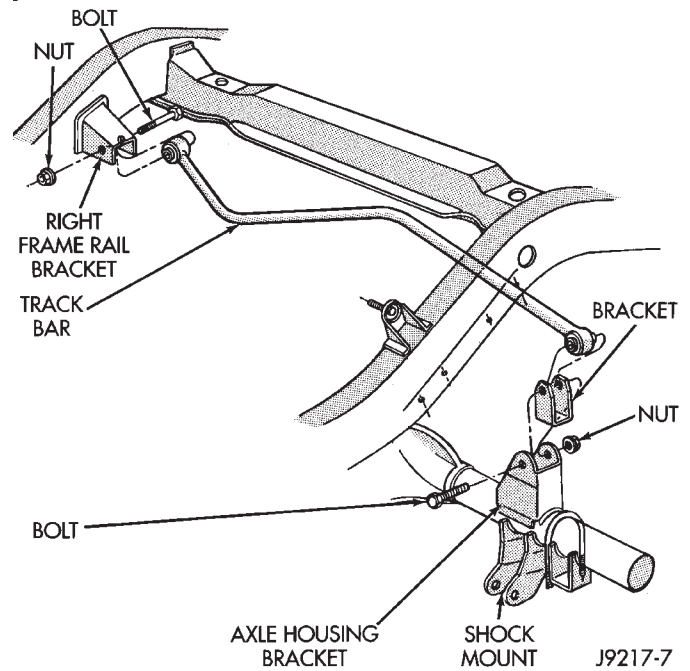

Fig. 3 Track Bar—YJ Vehicles
(1) Raise the vehicle. Position a hydraulic jack under the axle and raise the axle to relieve the springs of axle weight.
(2) Remove the fasteners that attach the track bar to the frame bracket and axle bracket (Fig. 3).
(1) Position the ends of the track bar in the frame and axle brackets (Fig. 3).
(2) Install and tighten the track bar attaching nuts to 168 N·m (125 ft. lbs.) torque.
(3) Remove the supports and lower the vehicle.